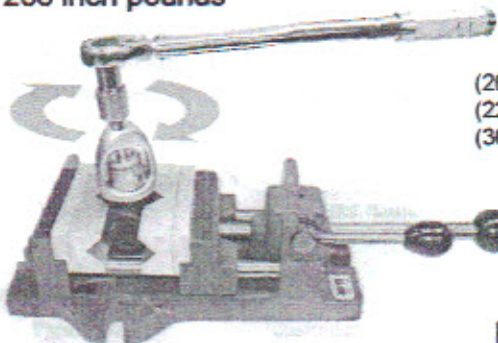

Figure 6
- 2) Replace the filter, retainer and o-ring with the new one supplied in the kit, install the new Yoke / DIN retainer into the Yoke / Knob and attach it to the body. Place the first stage in a bench vice with soft jaws, insert the 3" long x 3/8" drive extension through the yoke screw hole into the socket (fig. 6 and 7). Using the torque wrench, tighten the Yoke / DIN retainer to the specified torque (266 inch pound-force or 22 foot pound-force). Re-install yoke screw.